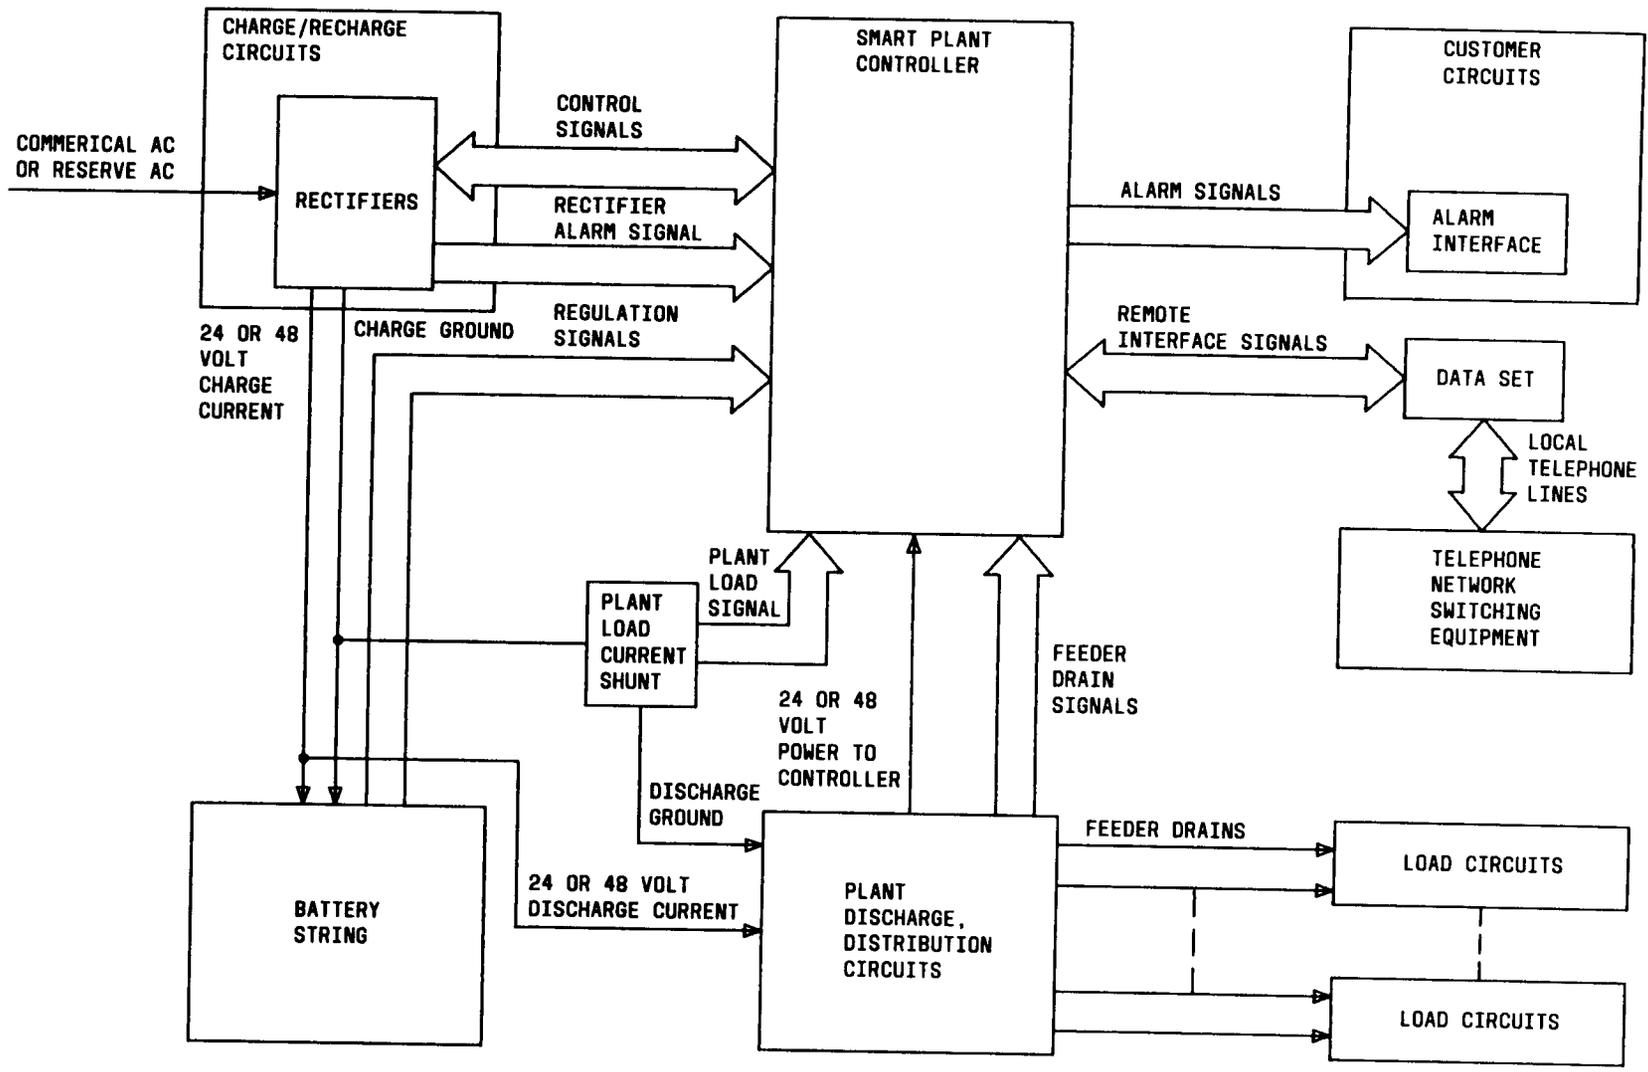

Fig. 4—Smart Plant Interface Block Diagram
3.02 The smart plant uses a microprocessor controller to monitor the plant current, voltage, alarm, status, sanity, etc. The controller determines load current, float, and recharge requirements. Individual rectifiers are monitored and checked continuously for rectifier data, status, output current, alarms, and malfunctions. Periodically the microprocessor runs a self-diagnostic test and a system test to detect malfunctions. Refer to Fig. 4 for the smart plant interface block diagram.